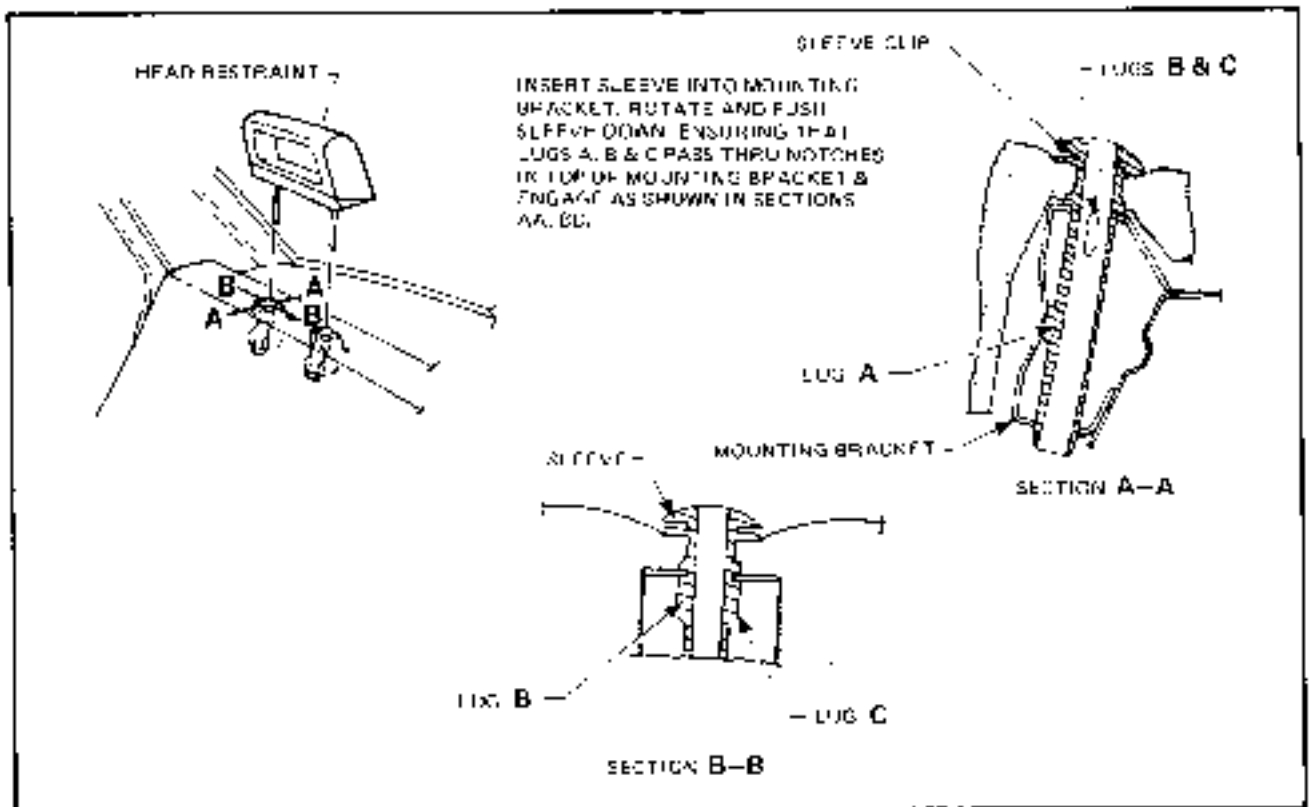

Figure 1A-45
- Twist head restraint sleeves in an anti-clockwise direction then lift sleeves out of brackets welded to the rear parcel shell (refer Section A-A, Fig. 1A-45).
- 3 Depress front edge of seat cushion assembly rearwards to disengage assembly retainer from brackets attached to the floor (refer Section A-A, Fig 1A-46) remove, then place assembly on a clean protected surface.